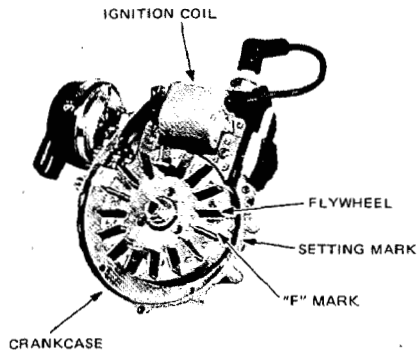

Fig. 16
- 6) Tack flywheel, and set "F" on flywheel to the mark on crankcase. Then gently remove flywheel from crankshaft again. (See Fig. 16)